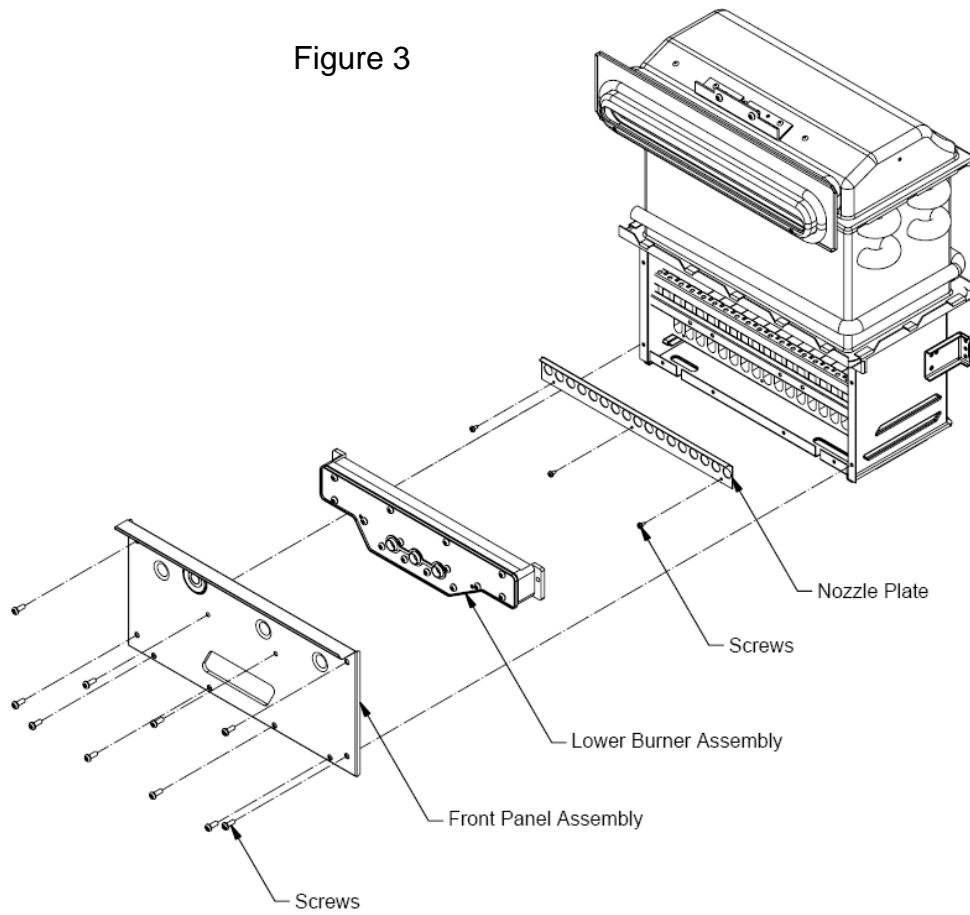

Figure 4
10. Remove the Gas Type Connector, (Refer to Figure 4 and Procedure 17) and refit replacement for required gas type and water heater capacity.